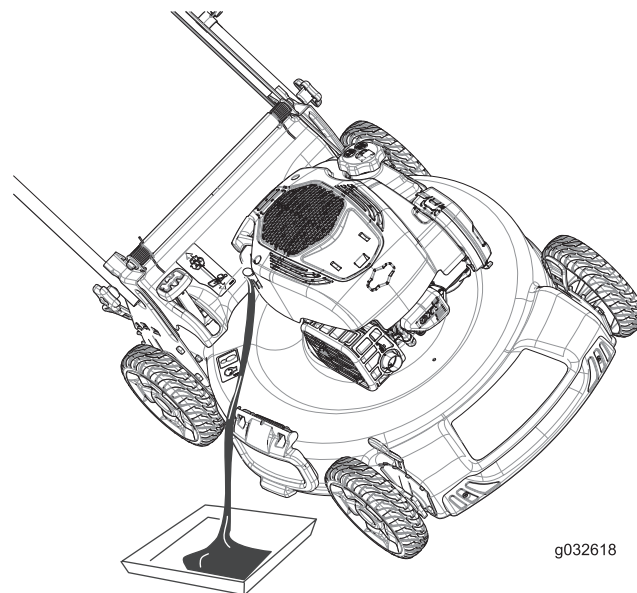

Figure 33
3. Tip the machine onto its side with the air filter up to drain the used oil out through the oil-fill tube (Figure 33).